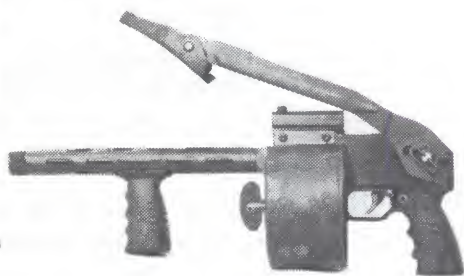
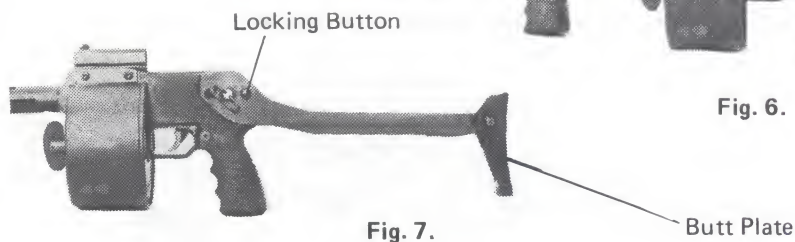

Fig. 6.
Fig. 7.
2. Lift the stock up and back with the left hand over the main body (Fig. 6) until it locks in the extended position, then fold out the Butt plate (Fig. 7).
1. Press the locking button (Fig. 7) in, to unlock the stock, fold butt piece and lift stock up and over main body, making sure that stock locks into place.